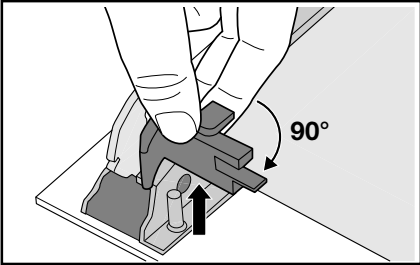

Fig. 6
- 8. Turn the 2 fasteners 90° and extract them from their seats (Fig. 6).